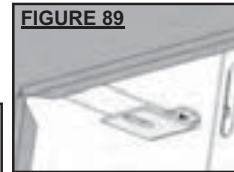
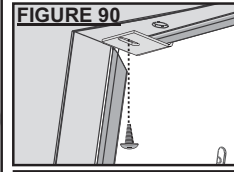

FIGURE 89
FIGURE 90
3. First secure the *clean face surround* to the fireplace front by hooking the ledge that runs horizontally on the rear surface of the *clean face surround* over the bottom edge of the fireplace front opening. (FIGURE 89)
4. With the *clean face surround* against the fireplace front, hook the surround *clips* in behind the top lip of the fireplace front opening (FIGURE 89) and secure using the screws provided through the slot in the surround *clip* and into the pre-drilled hole in the *clean face surround*. (FIGURE 89) If the *optional clean face trim kit* was installed, the surround *clip* fits into the cut out and is secured in the same fashion. (FIGURE 90)